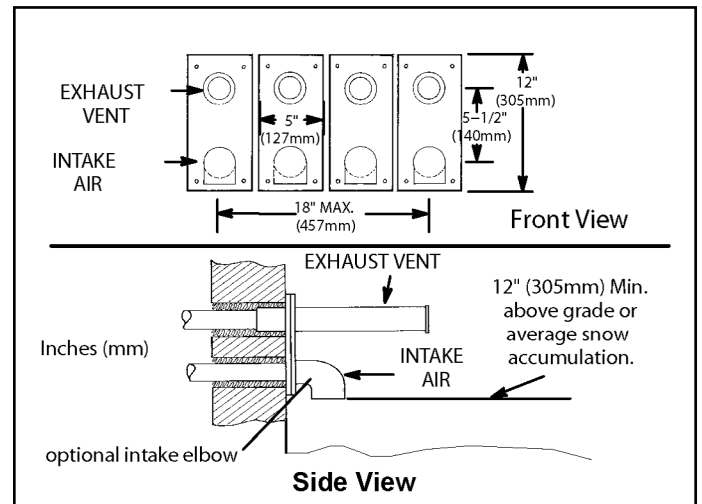

Figure 37. Optional Vent Termination for Multiple Unit Installation of Direct Vent Wall Termination Kit
8. Based on the recommendation of the manufacturer, a multiple furnace installation may use a group of up to four terminations assembled together horizontally, as shown in Figure 37.